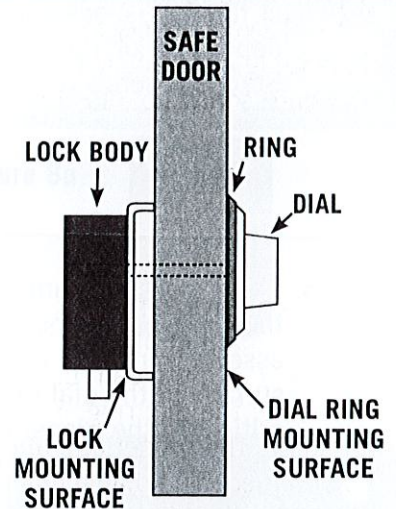

Figure 1
**Caution:** Lock mounting and dial ring mounting surfaces must be parallel. Dial ring center line must be precisely aligned with lock spindle center line, as illustrated at right in Figure 1.